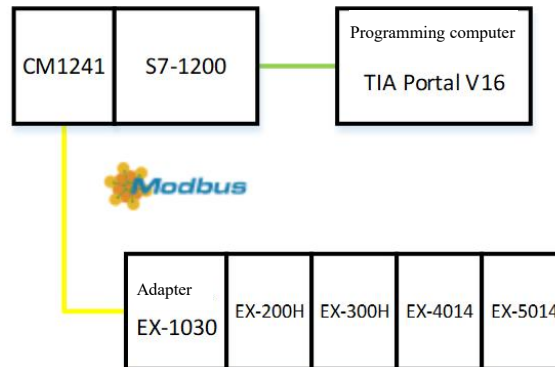

Figure 5-6-23 Communication connection diagram
1. Communication connection diagram, as shown in Figure 5-6-23.